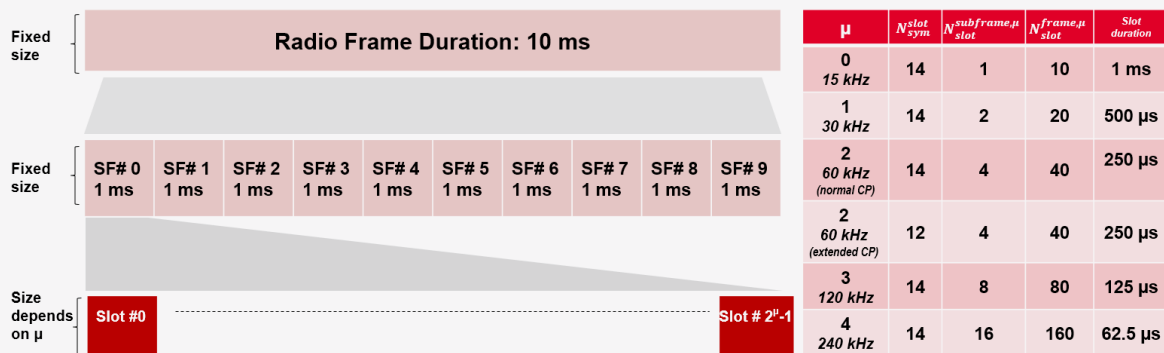

Figure 1. 5G NR frame structure.
Downlink (DL) and uplink (UL) transmissions are organized into frames with 10 ms duration, consisting of ten 1 ms subframes. The number of slots within a subframe or a frame depends on the numerology, as shown in Figure 1.